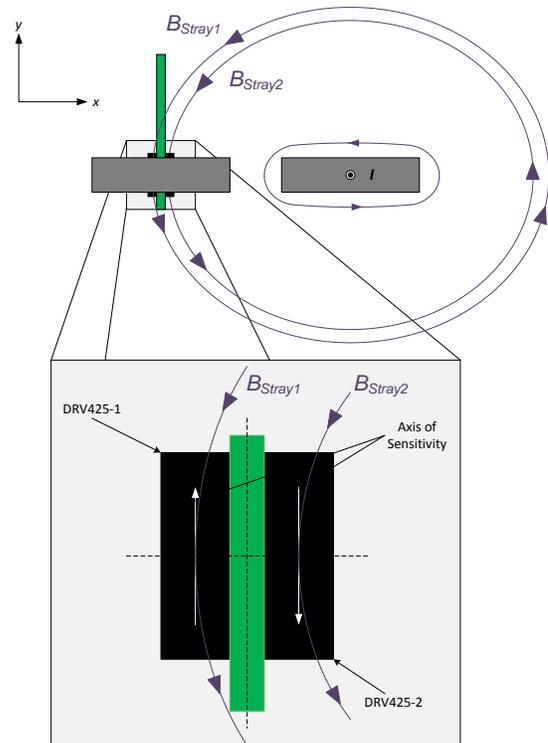

Figure 3. Stray Field
1. Large stray magnetic fields in the y-axis. As shown in Figure 3. The magnitude of the stray magnetic fields are seen entirely by each DRV425 device before being subtracted out. While the difference of the 2 DRV425 devices may be small, there is a possibility that the total magnetic field seen by one or both DRV425 devices may exceed the 2mT magnetic field range limit. This would result in an invalid measurement. Since the strength of the magnetic field is inversely proportional to the distance, the spacing from stray field sources (like another bus bar) needs to be evaluated at the system level to ensure saturation of either DRV425 does not occur.